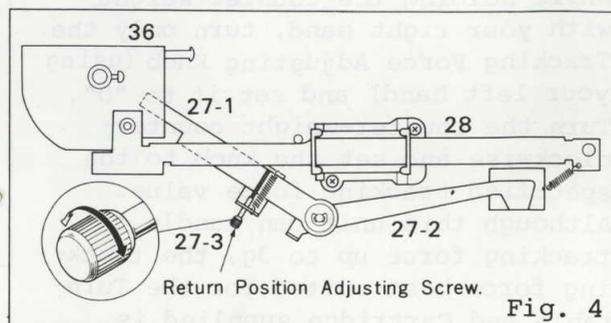

Fig. 4
1. If the Tone Arm returns before the run-out grooves, rotate the Return Position Adjusting Screw (27-3) clockwise. (Figure 4)
2. If the Tone Arm does not return with normal run-out grooves, rotate the Return Position Adjusting Screw (27-3) counterclockwise. (Figure 4)
- No: Rotate the Return Adjusting Screw counterclockwise. (Figure 4)
Rotate the Return Adjusting Screw clockwise. (Figure 4)
Rotate the Return Adjusting Screw counterclockwise. (Figure 4)